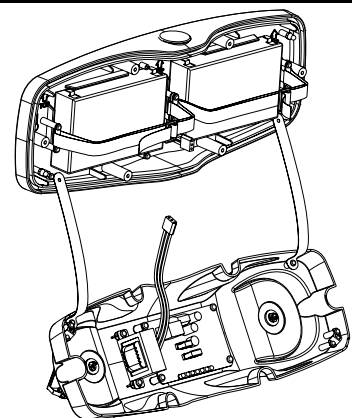
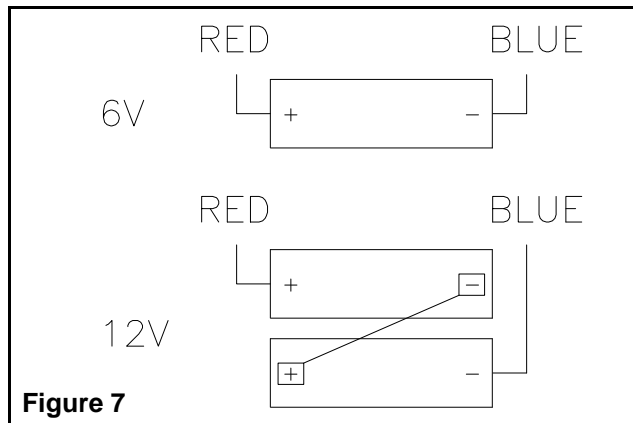

Figure 6
Figure 7
- a. Reinstall battery(ies) one at a time and electronic module as shown in figure 6. See figure 7 for batteries wiring diagram.
- e. Place the battery(ies) back in place one at a time, secure each battery with a battery bracket and screws. Battery heater is placed between the battery and the backplate. See figure 7 for battery(ies) wiring diagram. Put the electronic module back in place as shown in figure 6.